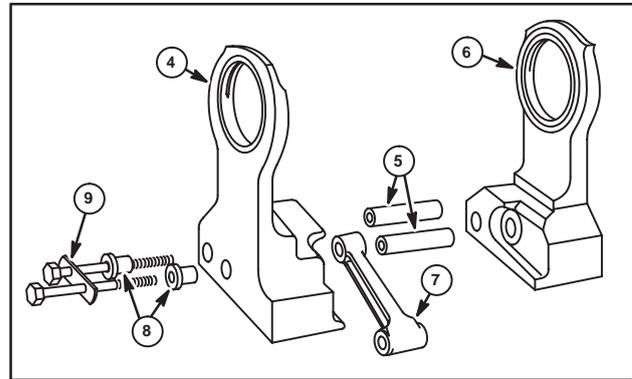

Fig. 10
6. Remove PTO side weight (4), dowel pin(s) (5), link (7) and spacer(s) (8) (when used).
7. Remove crankshaft from magneto side counterweight (6), Fig. 10.
8. Open lock tab (when used) (9) and remove screw(s) from counterweight.